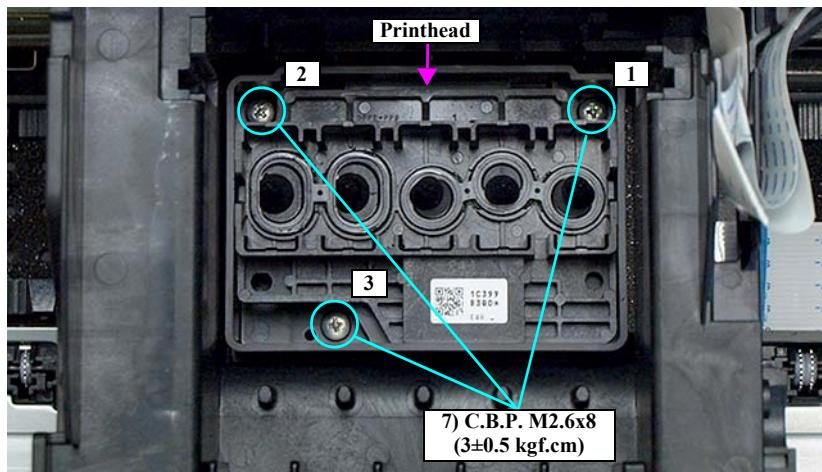

Figure 3-50. Removing the Printhead
- Tighten the screws in the order shown in Figure 3-50